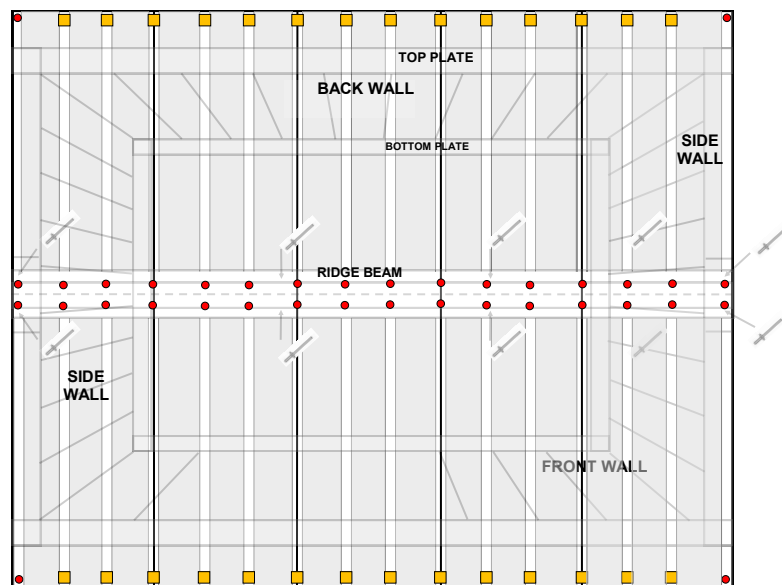

fig.2
Use the 50mm Clouts only on ribs covered by flashings, shown on pg 13 fig.2.
- Secure with 2 x 75mm screws through the top of the Jack Studs into the Timber Top Plate (fig. 2).
- Rivet the 2 Ridge Caps together using 4 rivets, so total flashing is 2.550m long. Rivet the Ridge Flashing to the centre of the roof using 8 x rivets as shown (fig.2).